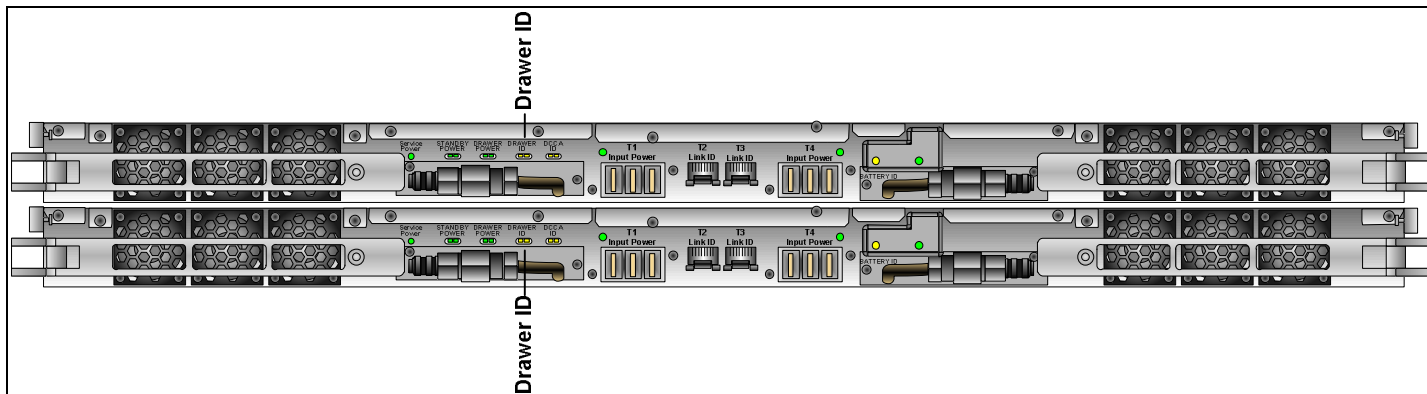
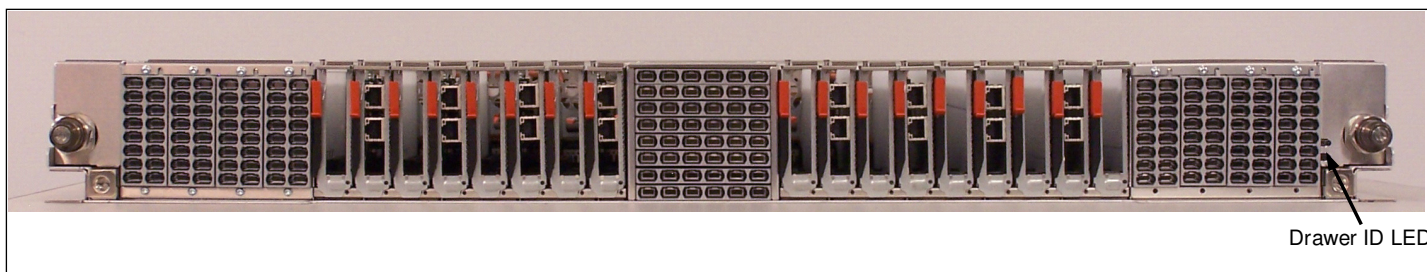

Figure 4 CEC Drawer ID – Front
Figure 5 CEC Drawer ID - Rear
STEP 8 Locate the CEC with the D-Link Cable requiring service. The CEC Drawer Identify LEDs (see Figure 4 and Figure 5) will be flashing. If the LEDs are not flashing, verify the FRU via MTMS (machine type model serial number).